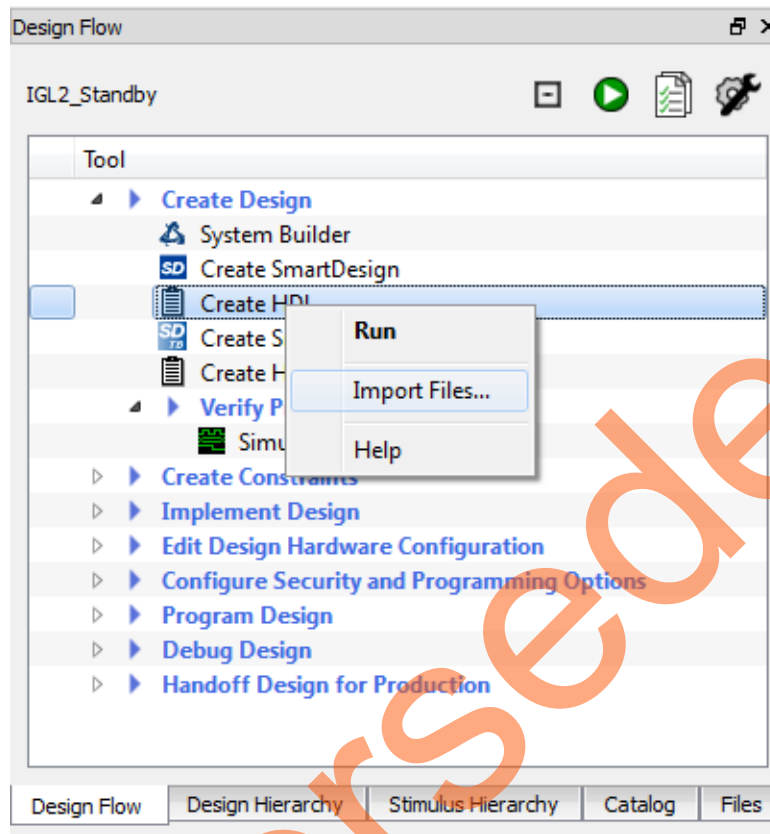

Figure 13 • Importing HDL Source Files
23. Import the VHDL source files into the project by selecting **Create HDL** under **Create Design** in the **Design Flow** tab. Right-click and select **Import Files...** (see Figure 13).